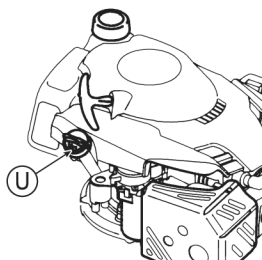

Fig. 6
1. Remove Oil tank cap (U), pull out the oil gauge, and then insert it not screwing it. (See Fig. 6)
2. Remove Oil tank cap (U), and confirm that the oil level is between the upper and lower limits of the oil gauge.
4. Firmly close Oil tank cap (U) after confirmation.